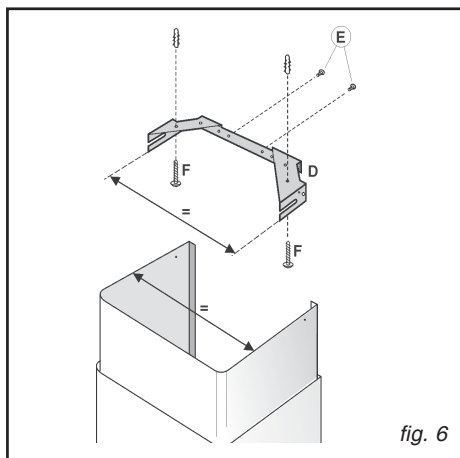
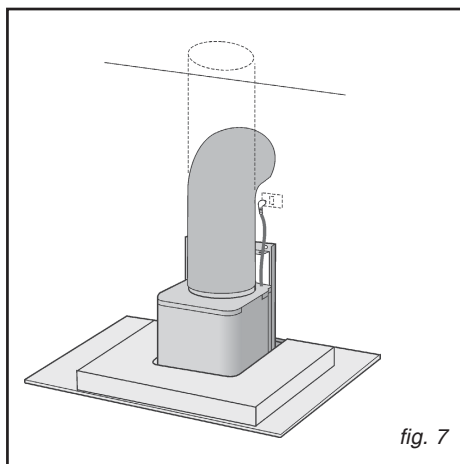

fig. 6
fig. 7
- Adjust the width of the support bracket (D) of the telescopic flue by means of the screws (E) as shown in Fig.6.
- Then, by means of the screw anchors and screws (F) provided, fix the bracket to the ceiling in such a way that it is positioned along the axis with your hood.
- Connect the air outlet pipe to the air vent of the hood; use a flexible pipe and lock it to the air vent of the hood with a metal hose clamp - Fig. 7 (pipe and clamp are not provided).
- Adjust the width of the support bracket (D) of the telescopic flue by means of the screws (E) as shown in Fig. 6.